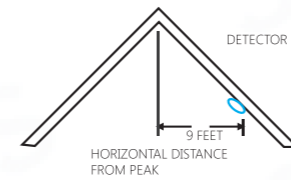

Figure 5: Recommended locations to mount smoke detectors in rooms with sloped, gabled, or peaked ceiling
- If some of your rooms have sloped, peaked, or gabled ceilings, try to mount detectors 3 feet (0.9 meter) measured horizontally from the highest point of the ceiling as shown in Figure 5.